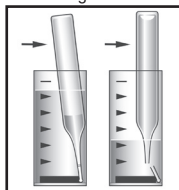

Figure 2
3. Place the CHEMets ampoule, tip first, into the sample cup. Snap the tip. The ampoule will fill leaving a bubble for mixing (fig. 2).